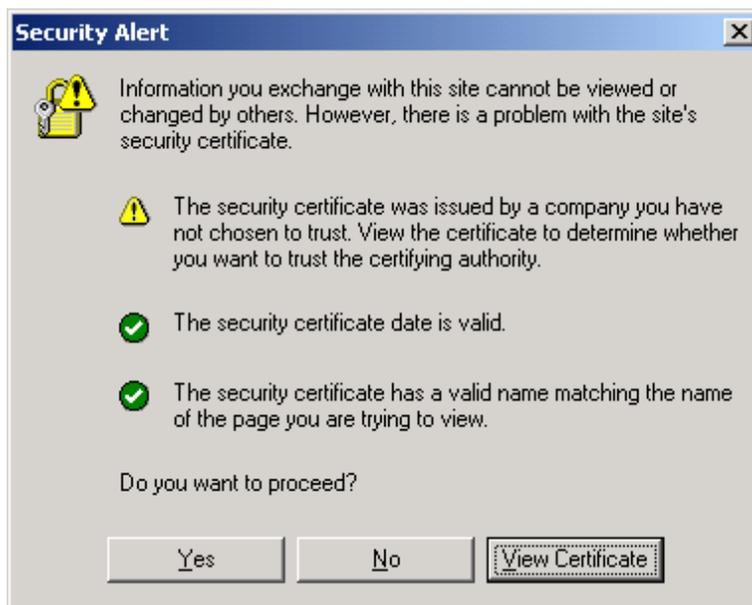

Figure 2-3: Security Alert
8. The web software comes with a Secure Socket Layer (SSL) server certificate. If you have not previously installed this certificate, you may encounter the security alert shown in Figure 2-3.